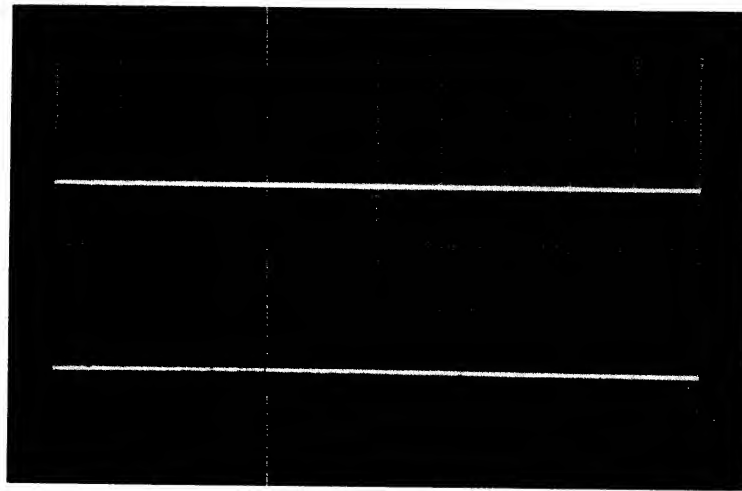

Figure 3-1 Ground Reference
2	Adjust the oscilloscope as follows: <ul style="list-style-type: none">a. Trigger: Channel 1 onlyb. Mode: Channel 1c. Channel 1: 5V/Divisiond. Set ground reference sweep on 1 cm above center horizontal graticule (see Figure 3-1).e. Sweep: 0.5 ms
- g. The oscilloscope should appear as shown in Figure 3-1.
2	<p>The oscilloscope is set as follows:</p> <ul style="list-style-type: none"> a. Trigger: Channel 1 only b. Mode: Channel 2 only c. Channel 1: 2V/cm d. Channel 2: 50 mV/cm e. Channel 2 GND reference: 2 cm below center graticule (see Figure 3-1) f. Current probe terminator to 2 mA/mV g. Sweep: 2 μs h. Slope: Positive; Source: Internal i. Attach the current probe to Channel 2.